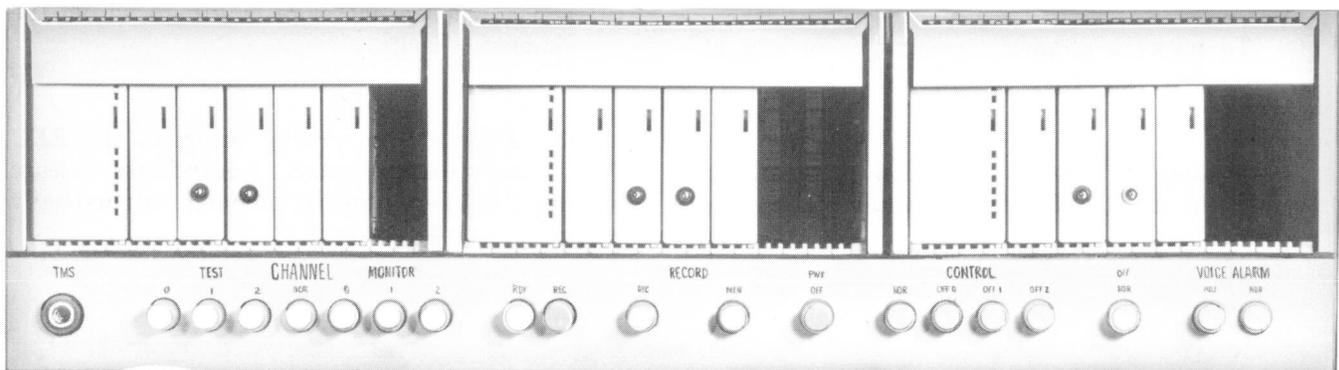

Fig. 6—Variable Message Length Channel Module and Control Unit
- (3) Insert one plug of the W1 patch cord into the SIGNAL jack on the storage module and the other plug into the TMS jack of the VML control unit (Fig. 6).
- (4) Depress CHANNEL TEST key on control unit corresponding to the desired channel to be recorded.